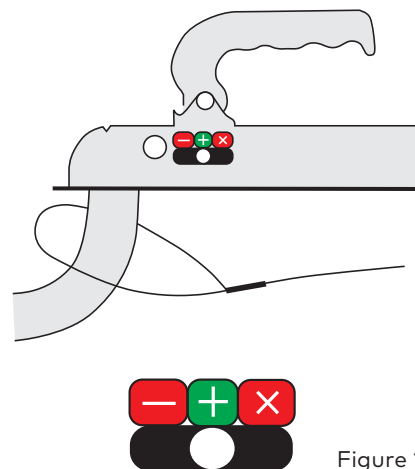

Figure 1
4. In the locked position the indicator on the coupling head is on the green mark (see Figure 1). Lift the coupling head to make sure that it is locked to the ball mount.